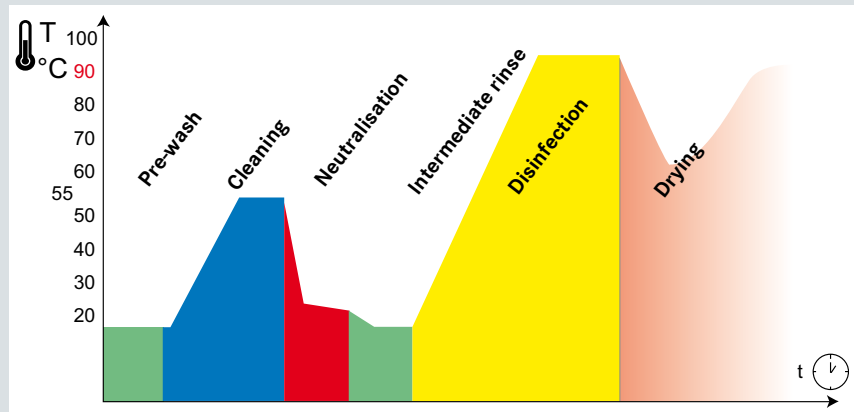

Fig.3 Diagram of the program sequence of Vario TD-programme
* Should the Miele washer disinfectant be unavailable, please observe the parameters of the Vario TD-program sequence (see fig. 3)
2. Start the Vario TD-programme (for diagram of program sequence see fig. 3) including thermal disinfection.